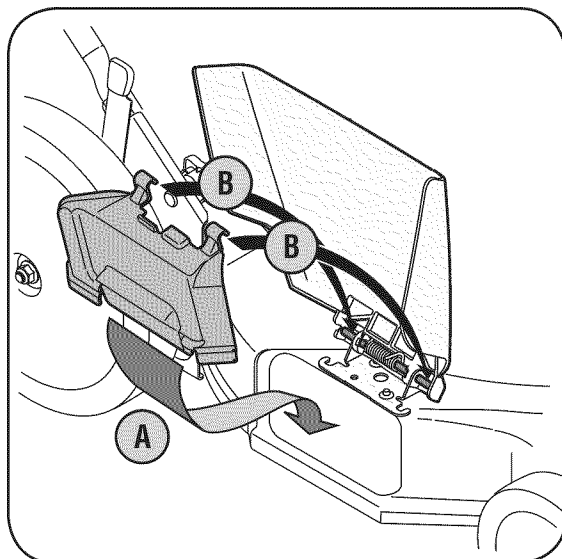

Figure 3-8
- Lift up and hold the side-discharge chute deflector and insert bottom lip of the mulching baffle inside the chute opening. See Figure 3-8.